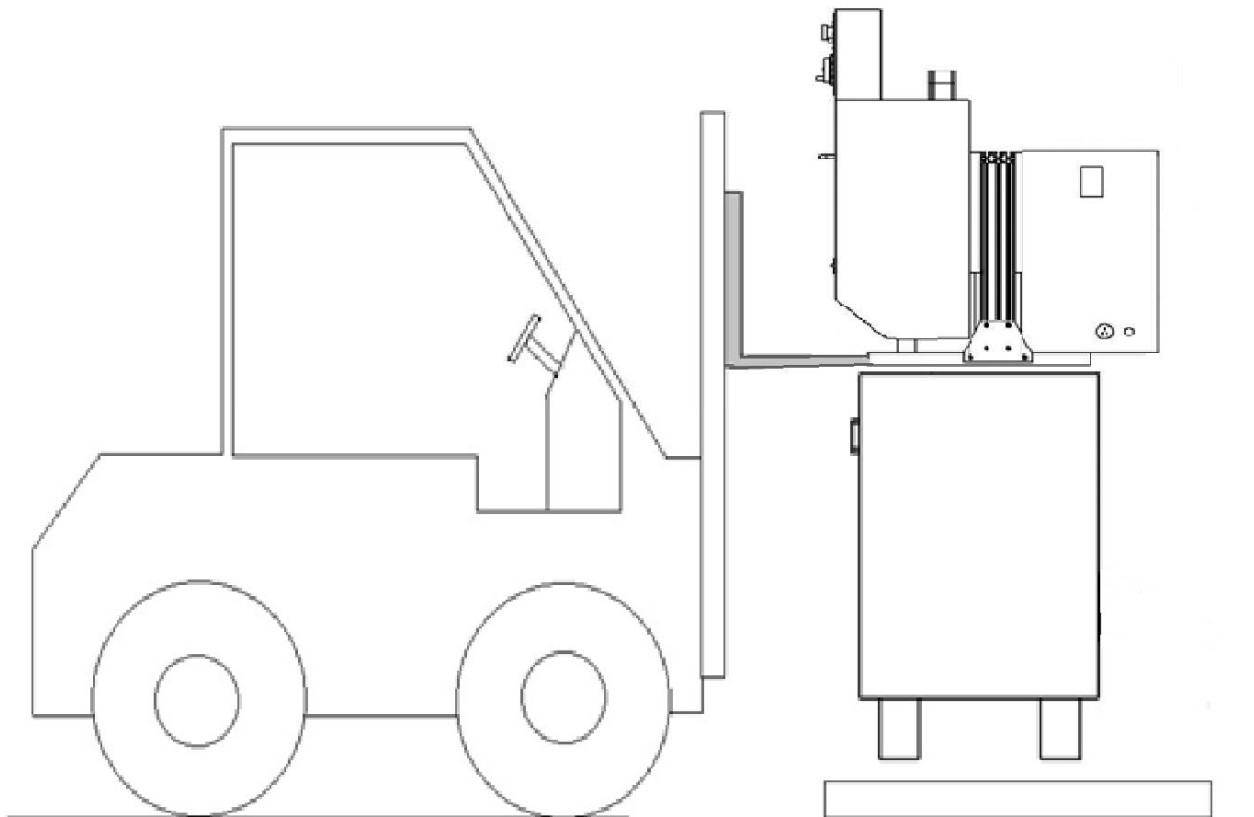

Figure 8. Proper way of lifting the machine
2. Use a forklift as depicted in Figure 8 to lift the machine and place it on top of the Machine Stand.